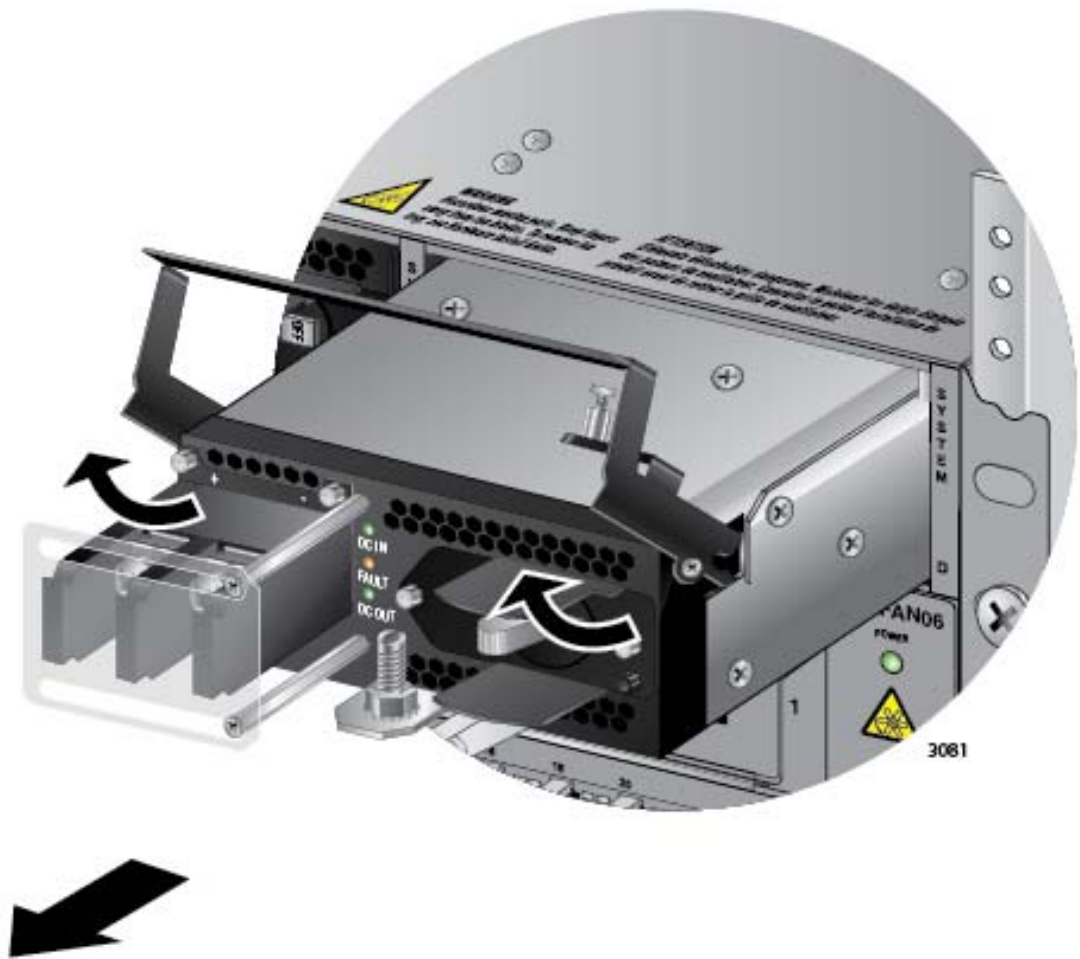

Figure 179. Lifting the Locking Handle and Removing the Power Supply
11. Lift the locking handle and slide the power supply from the chassis. Refer to Figure 179 on page 295.